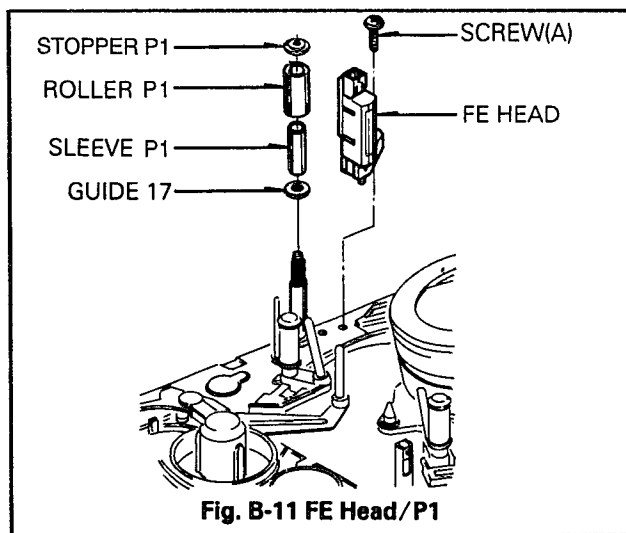

Fig. B-11 FE Head/P1
- 1) When reassembling, align the hole(A) of Pinch Gear with the hole of chassis, and the hole(C) of Pinch Gear with the groove(D) of the P.C.Gear. Hole(E) of chassis should be aligned with the hole of P.C.Gear.
11. FE(Full Erase) Head Assembly(Fig. B-11) (Optional Item)
12. P1 Assembly(Fig. B-11)